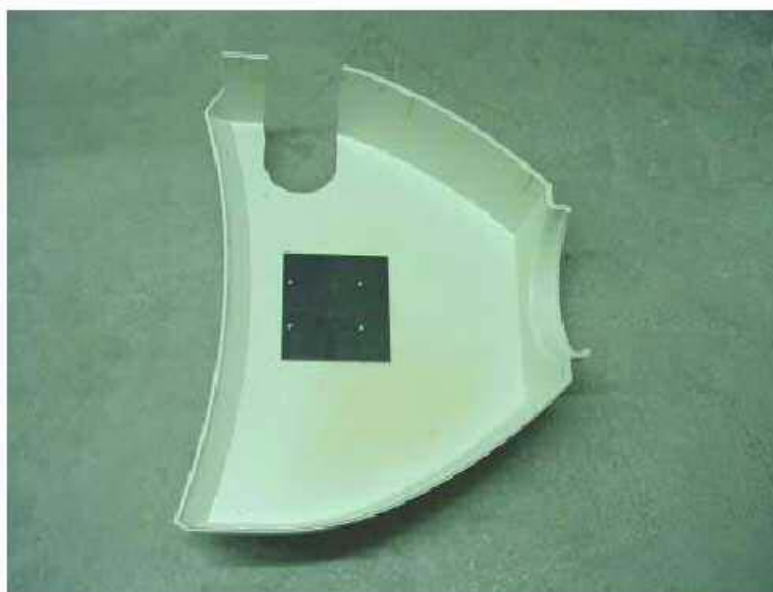

Fig. 6: Mounted holding plate
- Use a 6-mm drill bit to make holes at the 4 markings, see (Fig. 6 / p. 11).